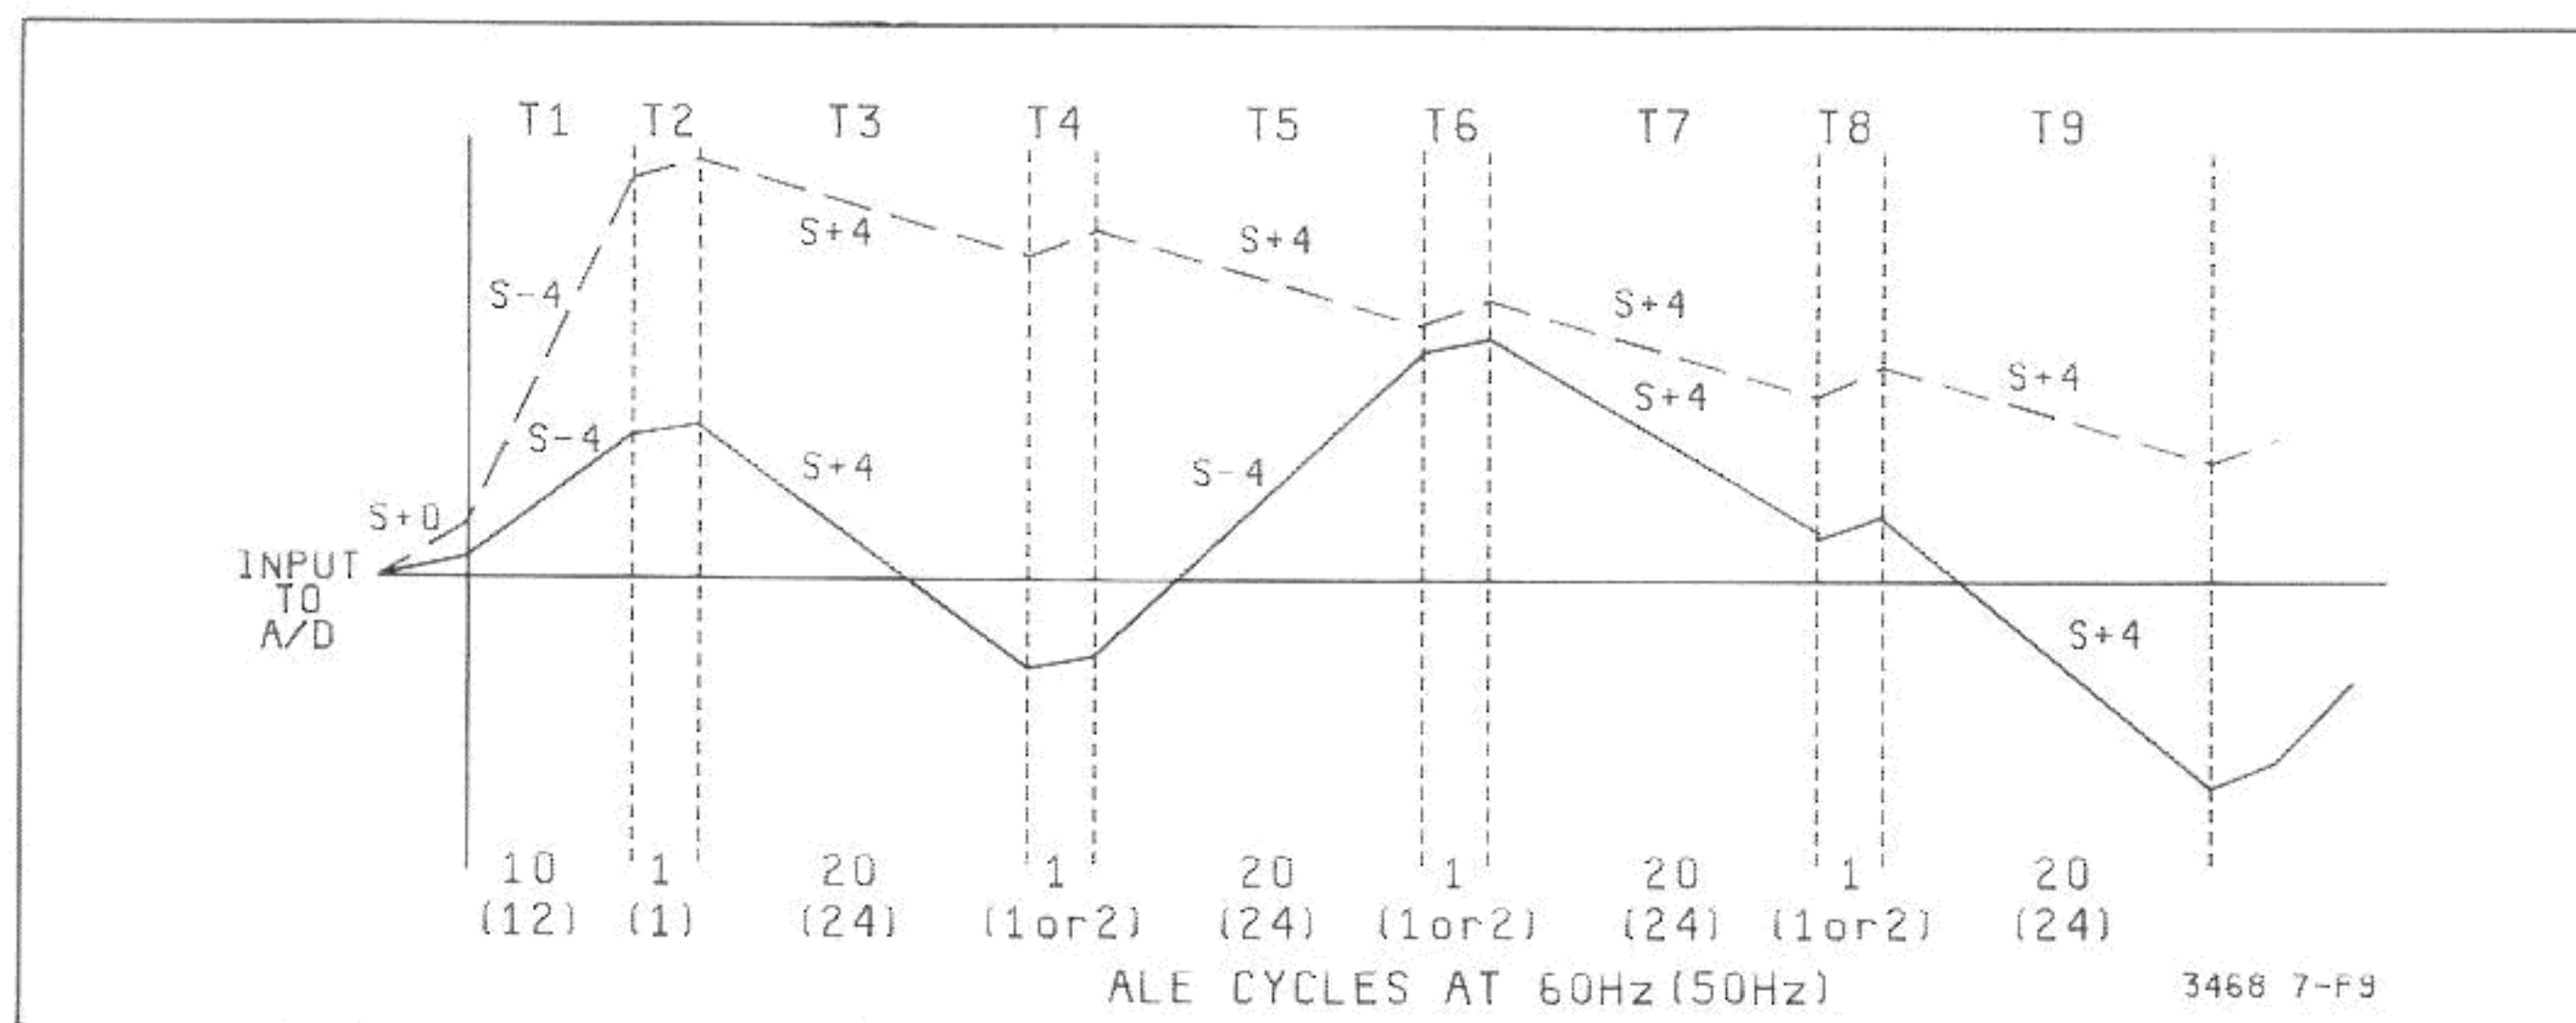

Figure 7-F-9. Runup Slopes (4 1/2 Digit Mode)
a. When runup starts, the integrator capacitor (C410) is charged by the input current (which is developed by the input voltage). The input current is applied to the negative terminal of integrator U401 (see Figure 7-F-7), and since the integrator is in the inverting configuration, the resultant output of U401 is positive (for positive input currents the slope is negative). The capacitor is charged for a short time period.